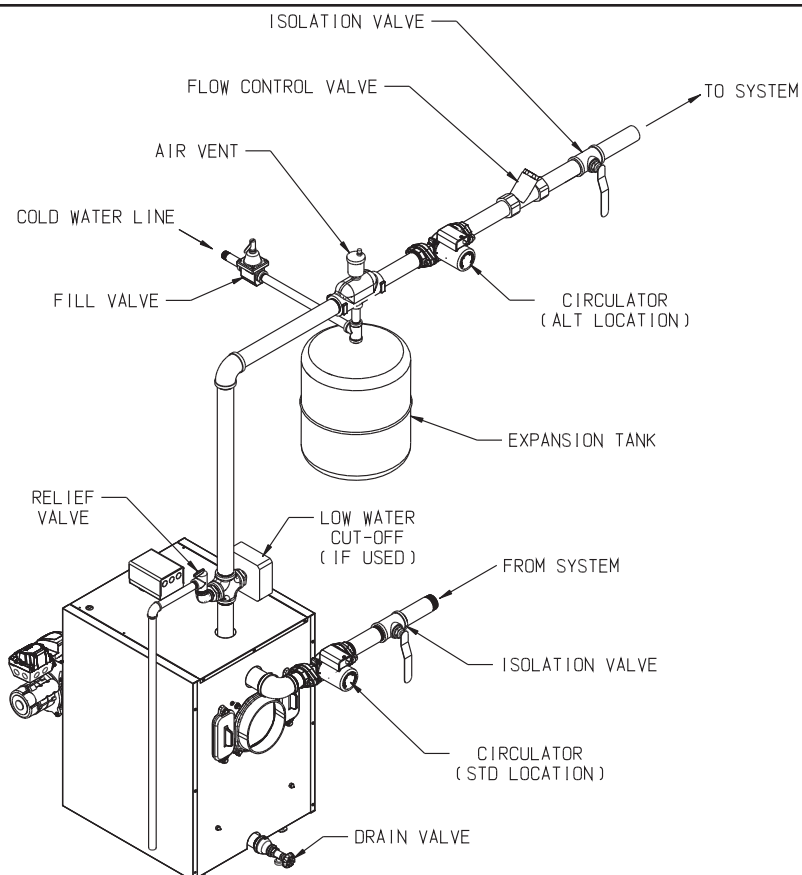

FIGURE 8.2: STANDARD BOILER PIPING
Figure 8.2 shows typical boiler system connections on a single zone system. Additional information on hydronic system design may be found in the *I=B=R Guide RHH* published by the Air-Conditioning, Heating and Refrigeration Institute (AHRI). The components in this system and their purposes are as follows:
- 3) **Circulator (Required)** - Figure 8.2 shows the ideal location of the circulator which is in the supply piping immediately downstream of the expansion tank. A less ideal, but acceptable, location for most residential circulators is in the return. The circulator/s and connected piping should be sized so that the temperature rise across the boiler is 20°F. Burner operation while the flow through the boiler is less than that shown in Table 8.0, column (a) could result in problems regulating the supply temperature. If the system is zoned, the flow rate through the boiler should be greater than that shown in Table 8.0 when only the zone having the lowest flow rate is on. If this requirement cannot otherwise be met, use a bypass, or primary-secondary piping. Boiler head loss data at the minimum flow and the flow corresponding to a 20°F rise are shown in Table 8.0.